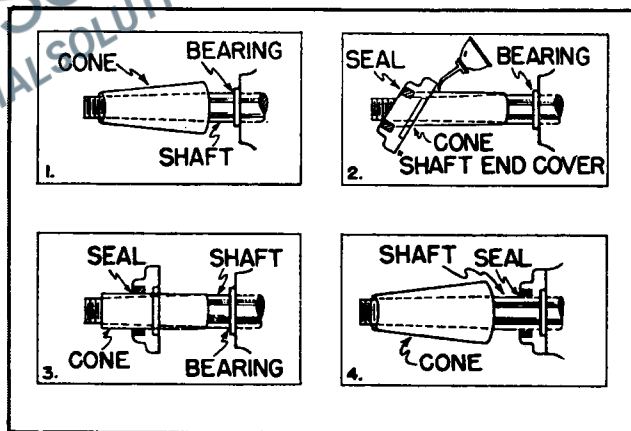

Figure 6-12. Oil Seal Replacement.
- H. Before replacing the shaft end cover (includes oil seal), make certain that there are no burrs on the beltwheel end of the crankshaft and that the edges of the keyway are smooth and slightly rounded to prevent damage to the oil seal. When satisfied that the crankshaft is smooth, replace the shaft end cover. As an added precaution against cutting the oil seal, an assembly tool can easily be made in the form of a truncated cone of .003" (.076 mm) brass shim stock. See Figure 6-12.